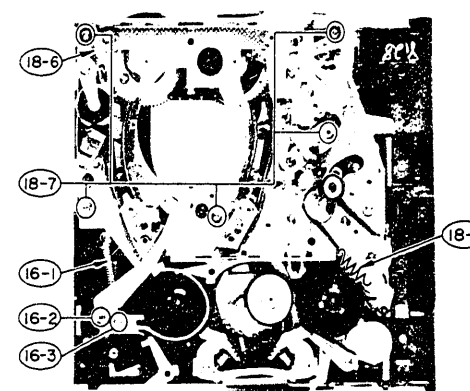

Fig. 15
16. Tension arm/tension band (Fig. 15)
18. Sub. chassis (Fig. 15)